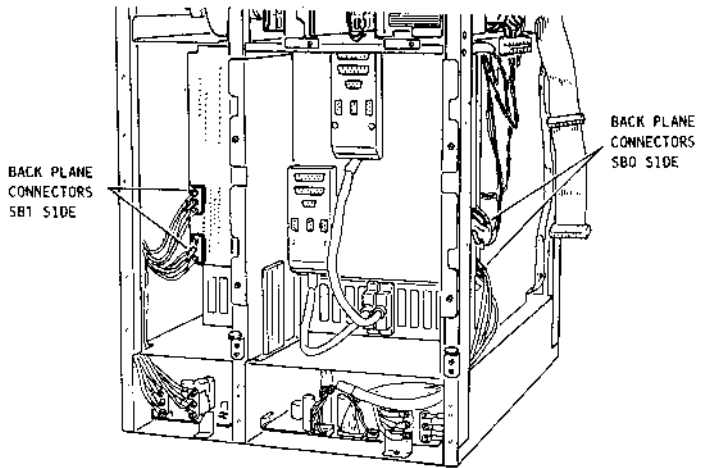
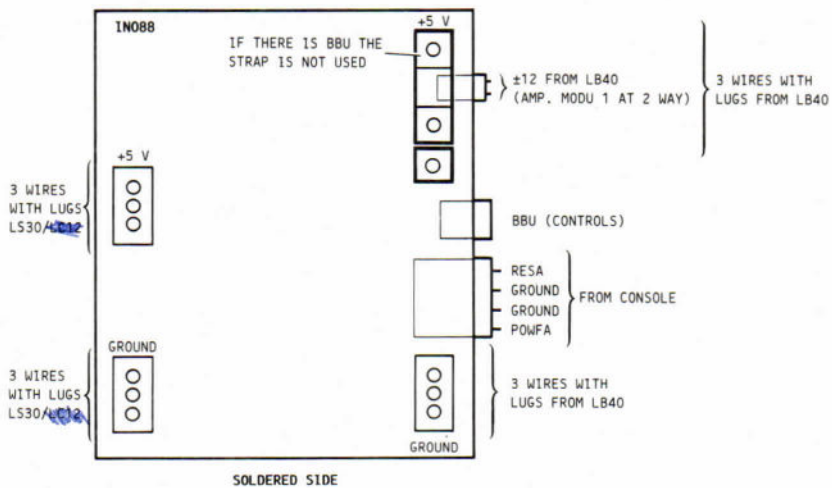

Fig. 2-20 Position of BACK PLANE Connectors on System Frame
Fig. 2-21 Rear View of BACK PLANE and Connectors
9. Disconnect the three red +5 V power supply cables and the three black ground cables (see figure 2-21) on the left of the SB0 (see figure 2-20).
10. Disconnect the three red +5 V power supply cables and the three black ground cables (see figure 2-21) on the right of the SB1 (see figure 2-20).
11. Remove the 2x1 way,  $\pm 12$  V line voltage, AMP MODU I connector in position beside the power supply cables on the left of the SB0 (see figure 2-21).
12. Disconnect the 4x1 way, AMP MODU II connector of the RESET and POWFA signals in position beside the power supply cables (see figure 2-21).
13. Unscrew the screws (20) securing the back plane to the casing and remove the back plane.